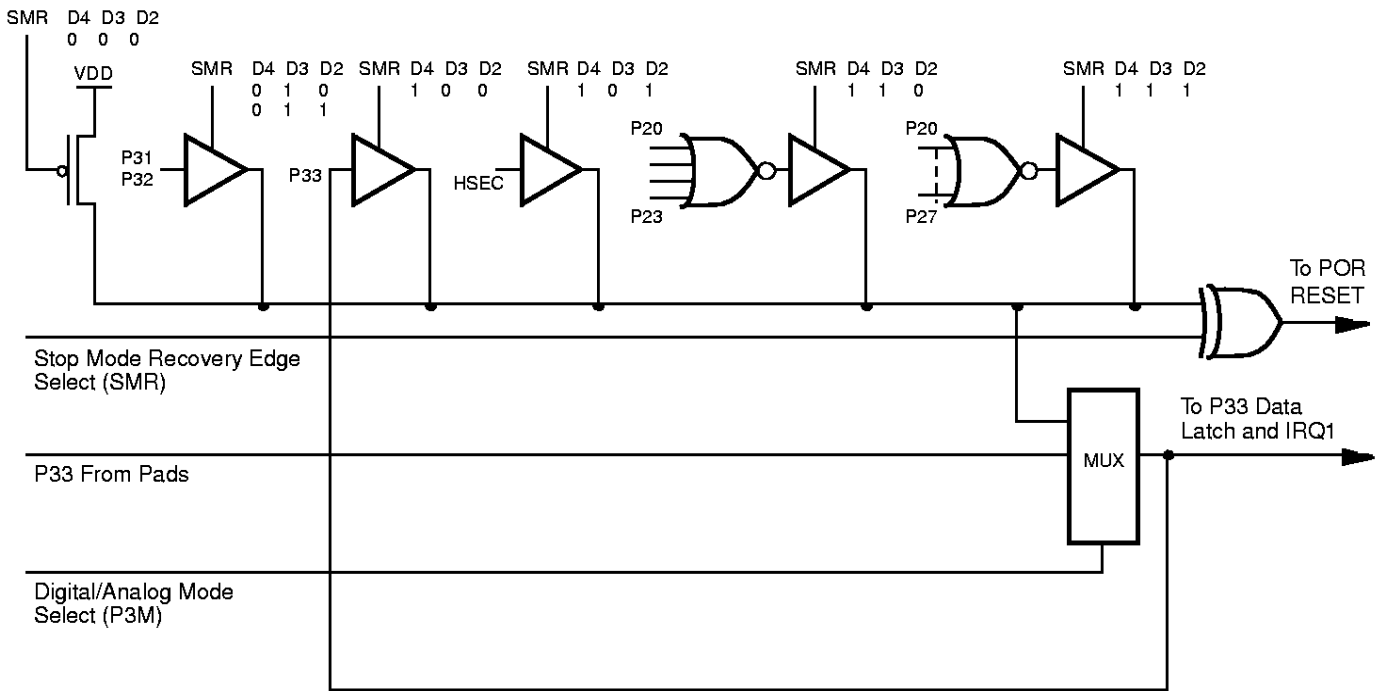

Figure 44. Stop-Mode Recovery Source
**Stop-Mode Recovery Source (D4–D2).** These three bits of the SMR specify the wake-up source of the STOP recovery (Figure 44 and Table 11).